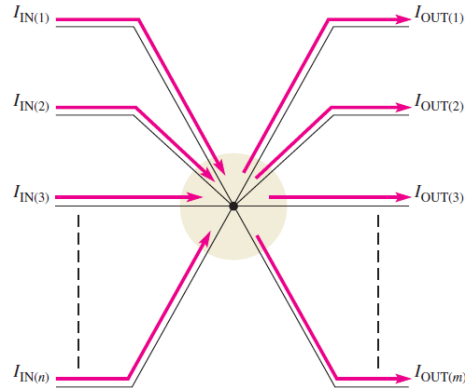

Figure 3. Generalized circuit node illustrating Kirchhoff's current law.
Step 5. Break into the circuit to measure its current. Connect the DMM in series with the circuit as shown in Figure 3. The red probe will be on one open end and the black probe will be on the other. Hence, the current will flow through the DMM and it will be possible to read current.